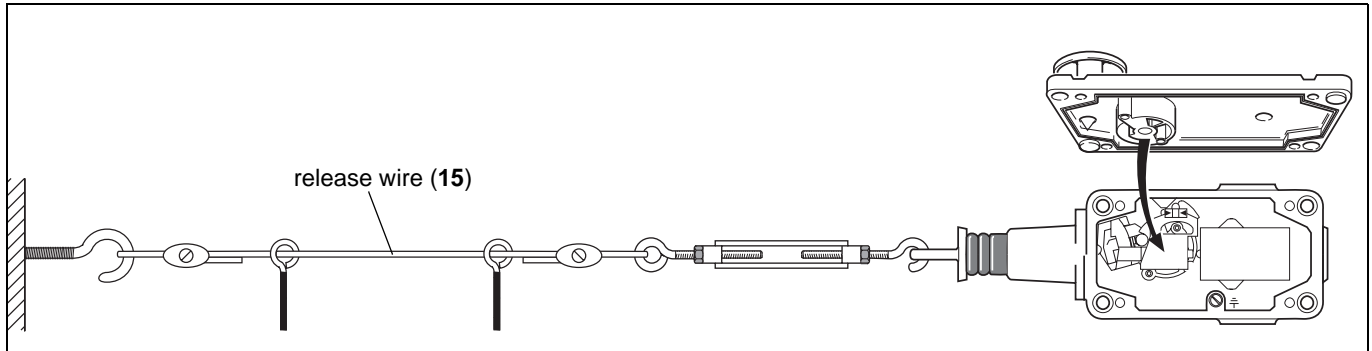

Fig. 3-1: Function of the emergency cord switch type LRS 004
The emergency cord switch, type LRS 004, is a unidirectional operated switch. If the release wire (15) sags or tears off, the operation of two normally closed contacts is forced (see fig. 3-1 and 3-2). In addition, the EMERGENCY OFF command can be triggered by means of the red mushroom button (5) mounted onto the lid of the cover. If the release wire (15) is pulled, a mechanical lock is activated, which can only be released via the reset button (4) on the device.